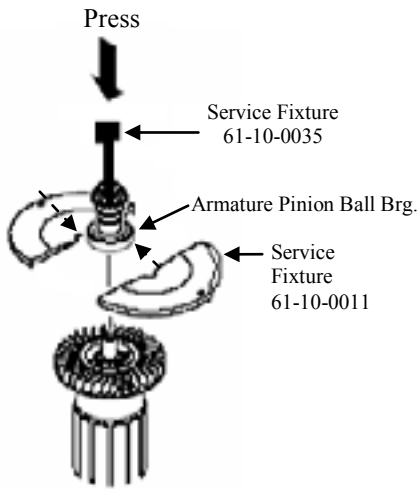

fig. 5
4, 21, 37 Remove armature pinion (37) from armature (21) using Special Service Fixtures 61-10-0035. Note: Place separator plates 61-10-0011 under ball bearing (4) as illustrated in fig. 5.